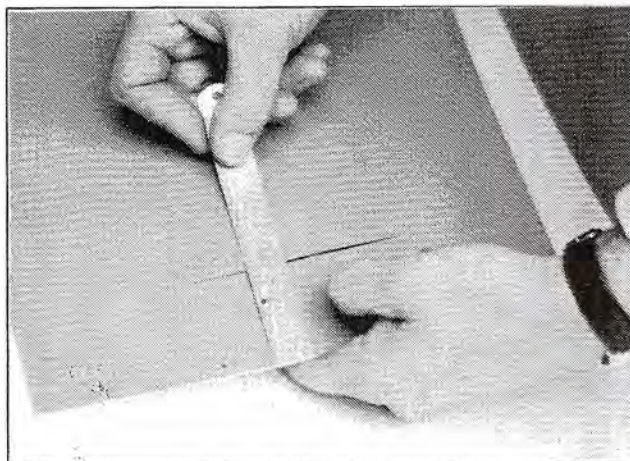

Fig. 5
1. Slide the squaring arm stop (7) fully to the right.
2. Set the margin guide stop (15), the end-of-cut stop (12) and the pointer of the start-of-cut indicator (2) to give any arbitrary reading on their respective scales, such as 2 ins or 5 cm. When setting the start-of-cut indicator move the start-of-cut scale (23), releasing and then locking it by turning the start-of-cut locking screw (3) on the side of the indicator. **Do not, at this stage, loosen the indicator locking screw (4) ABOVE indicator.**
3. Using a slip sheet, place a piece of mountboard in the cutting position, as described on page 5 with its edges firmly against the margin guide (18), the squaring arm (8) and the back squaring arm (16).
4. Bring the start-of-cut gauge into firm contact with the top edge of the mountboard as described on page 5 and make a test cut with the bevel blade as far as the end-of-cut stop (12).
5. Take the mountboard from the machine and measure the following distances **on the face** accurately with a steel rule (Fig. 5):
- from the start of the cut to the top edge; this should be precisely the same as the reading of the pointer of the start-of-cut indicator (2).
- from the end of the cut to the bottom edge; this should be precisely the same as the reading on the end-of-cut scale (11).
- from the cut to the right hand edge; this should be precisely the same as the reading on the margin guide scale (14) at the margin guide stop (15).
6. If the reading on the start-of-cut scale (23) is not precisely the same as the corresponding measurement on the mountboard, re-calibrate the scale by loosening the indicator locking screw (4) above the start-of-cut indicator.